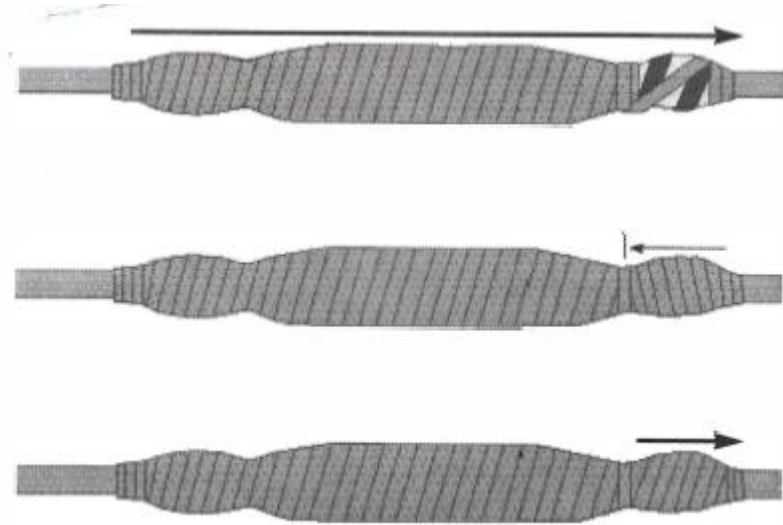

Figure 11
22. Starting 2" beyond the sheet, begin wrapping the compression wrap around the splice in half-lapped layers. Stretch the wrap as much as possible while wrapping the splice. If you notice air trapped under gel sheet, squeeze out by hand toward end of closure. Two half-lapped layers of compression wrap must be applied to each cable gel seal area, as shown in illustrations (Figure 11).